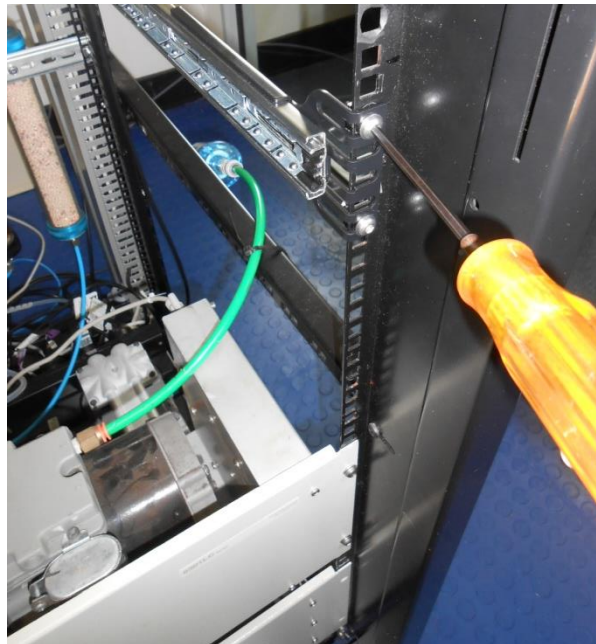

Figure 163 – Attach Slides to Front of Rack
7. Refer to Figure 163. Install the two assembled outer slide rails onto the left and right side of the rack securely with M6 bolts; washer and locknuts/cage nuts.